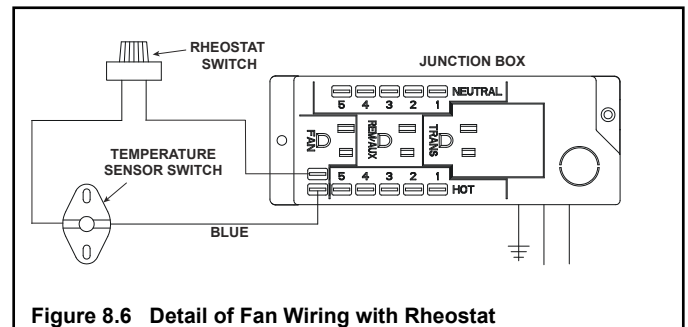

Figure 8.6 Detail of Fan Wiring with Rheostat
- Connect temperature sensor switch wire and rheostat switch wires to junction box as shown in Figure 8.6.